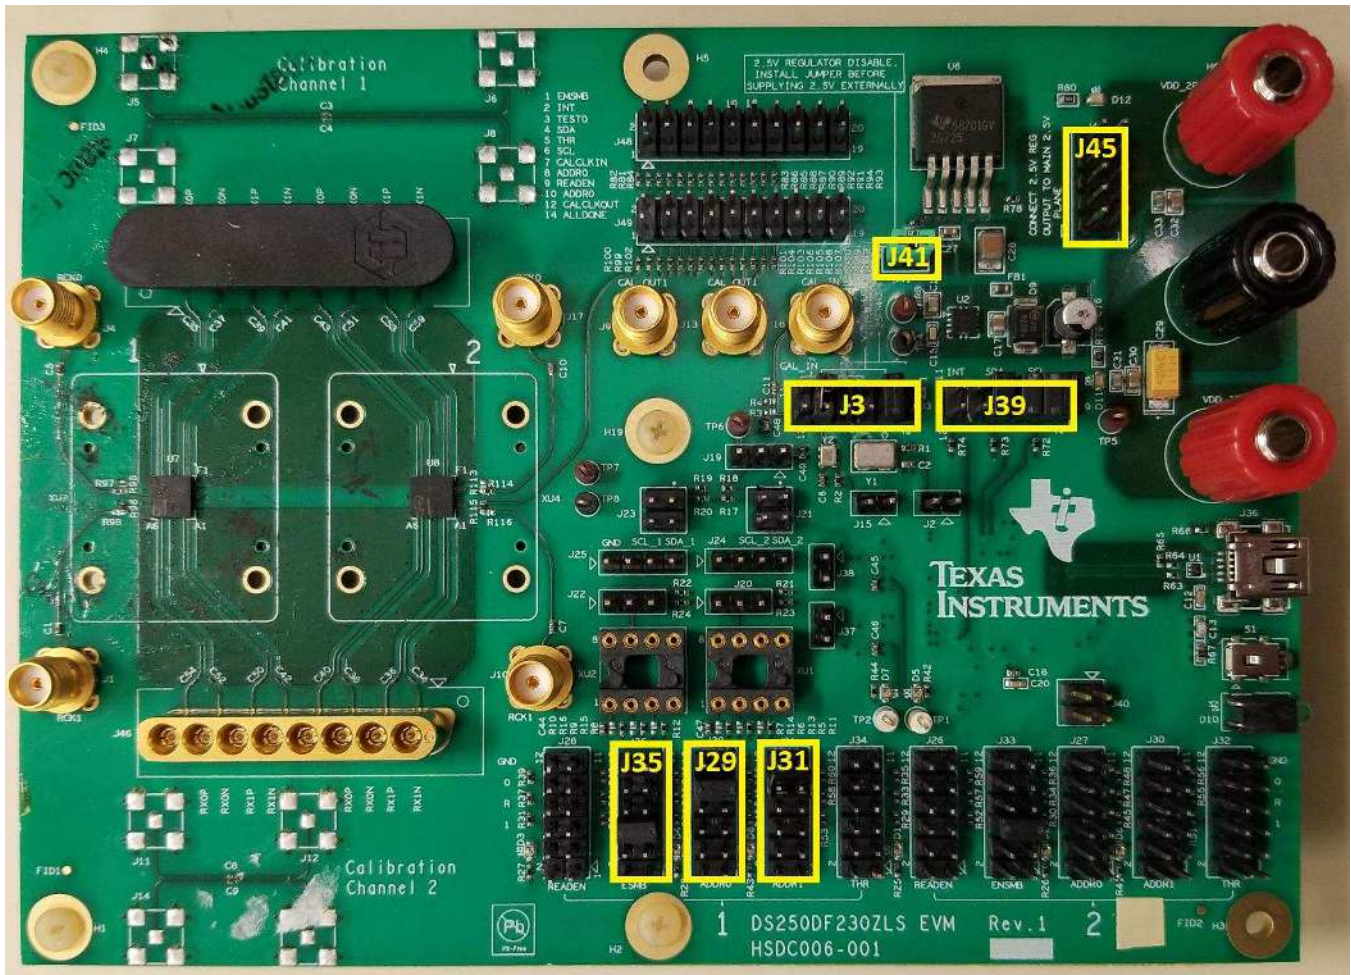

Figure 1. DS250DF230EVM, Showing Connections for Power, Signal, and USB Communications
1. Check the EVM jumper settings to ensure they match Figure 1 below.